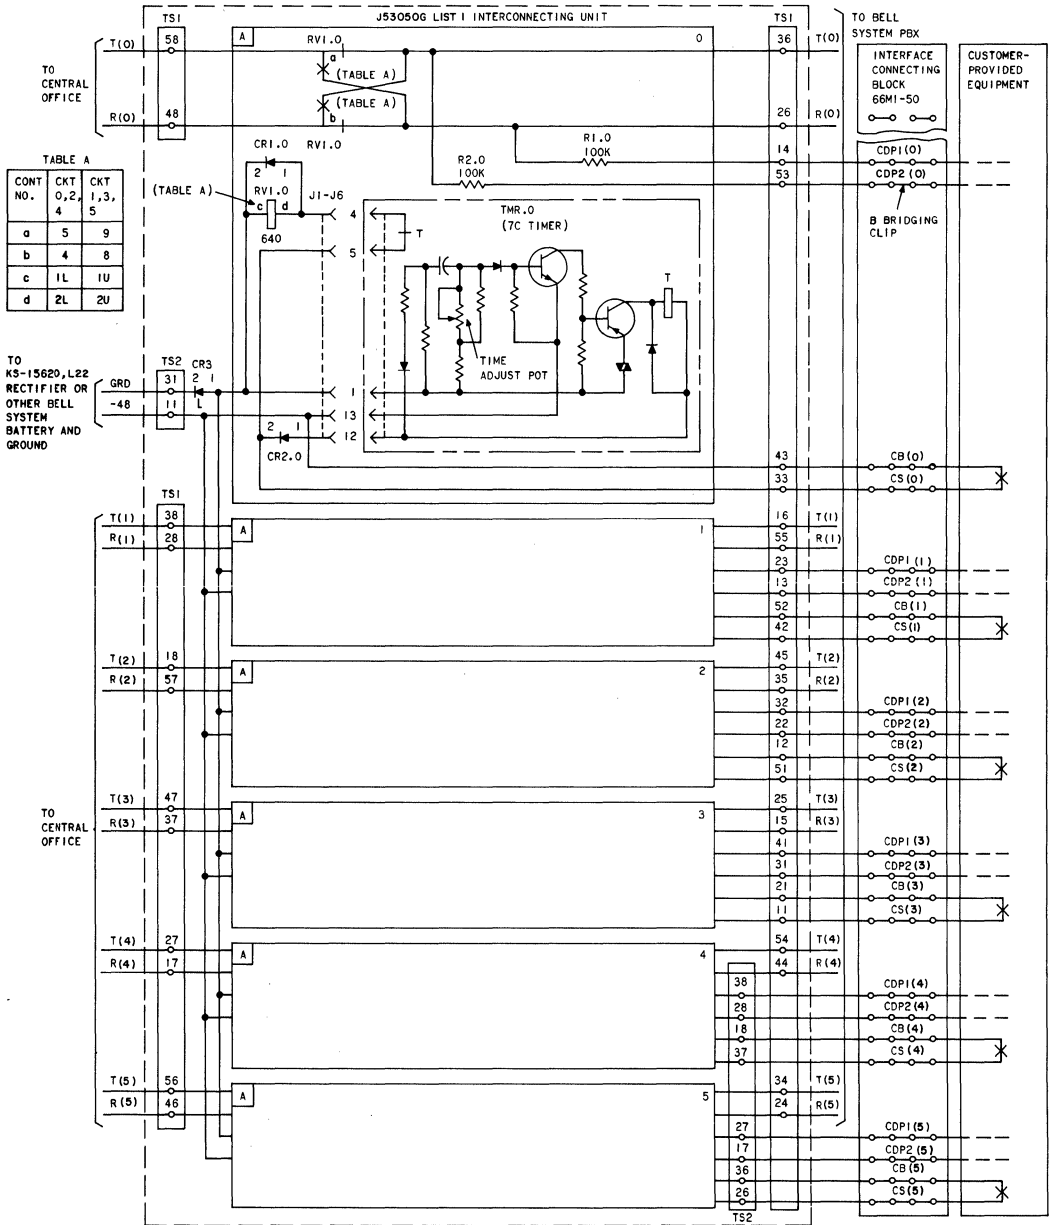

Fig. 10—Simplified Schematic and Connections—Connecting Arrangement CTD, Using J53050G, List 1 (MD) IU
4.04 **Connecting Arrangement CTD, Using J53050G, List 1 (MD) IU (Fig. 10):** When a station on a Bell System PBX seizes a CO trunk for an outgoing call, Connecting Arrangement CTD
provides an off-hook indication and passes dialing to the CPE over leads CDP1 and CDP2 (if the CPE requires contact closures for off-hook indication and dial pulsing, these are provided by Connecting Arrangement RCX; leads CDP1 and CDP2 from Connecting Arrangement CTD are not used—see Fig. 5). If the CPE determines that the dialed number is to be denied completion, it places a contact closure of at least one second duration across leads CB, CS toward Connecting Arrangement CTD. The contact closure across leads CB, CS causes relay RV to operate (Fig. 10) and starts the 7C timer circuit associated with the CO trunk. The RV relay operated reverses the CO battery on leads T, R toward the PBX. Within approximately 250 to 500 ms after the closure across leads CB and CS, the T relay in the timer circuit operates (the Time Adjust Pot on the 7C timer covers a total interval of 100 to 1000 ms and must be set at one-quarter turn clockwise to produce the 250 to 500 ms interval). The T relay operated releases the RV relay which restores the CO battery, on leads T, R toward the PBX, to the original polarity. The T relay remains operated until the contact closure across leads CB, CS is removed by the CPE, which returns Connecting Arrangement CTD to the idle condition.
TESTS—J53050G, LIST 1 (MD) INTERCONNECTING UNIT (FIG. 10)